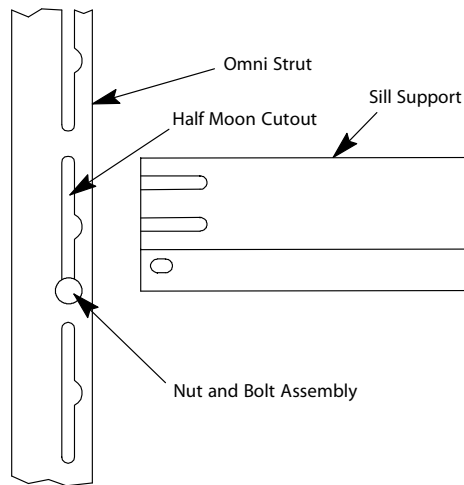

Figure 5 - Slot Location
1. Determine the proper slot for the sill support (based on floor location), then drop the nut and bolt assembly through the half moon cutout. See Figure 5.